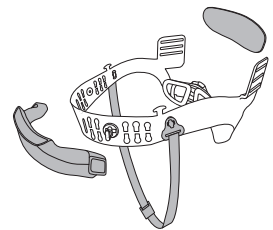

fig.10c
- Replace sweatband and back pad with new one, and then put complete headgear back into face shield (See fig.10c)